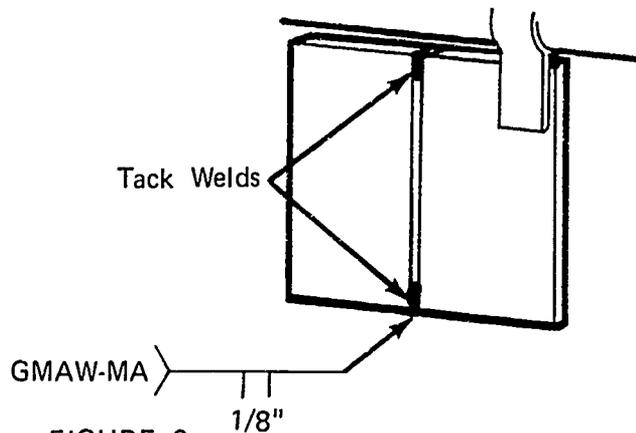

FIGURE 2
- E. Place metal in a vertical position for welding (Figure 2)